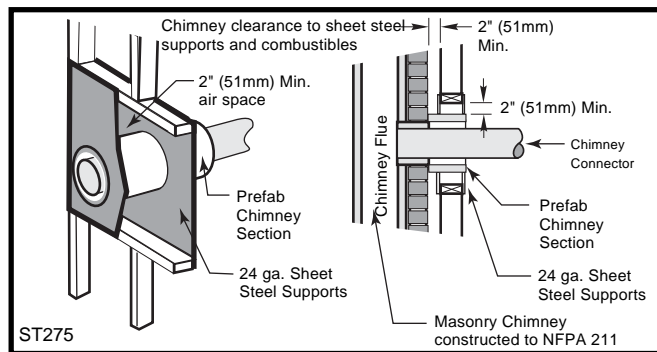

Fig. 12 Wall Pass-through with ventilated steel thimble.
- Placing a chimney connector pipe inside a section of 9" (229mm) diameter, solid-insulated, factory-built chimney, with two inches of air space between the chimney section and combustibles. (Fig. 12)